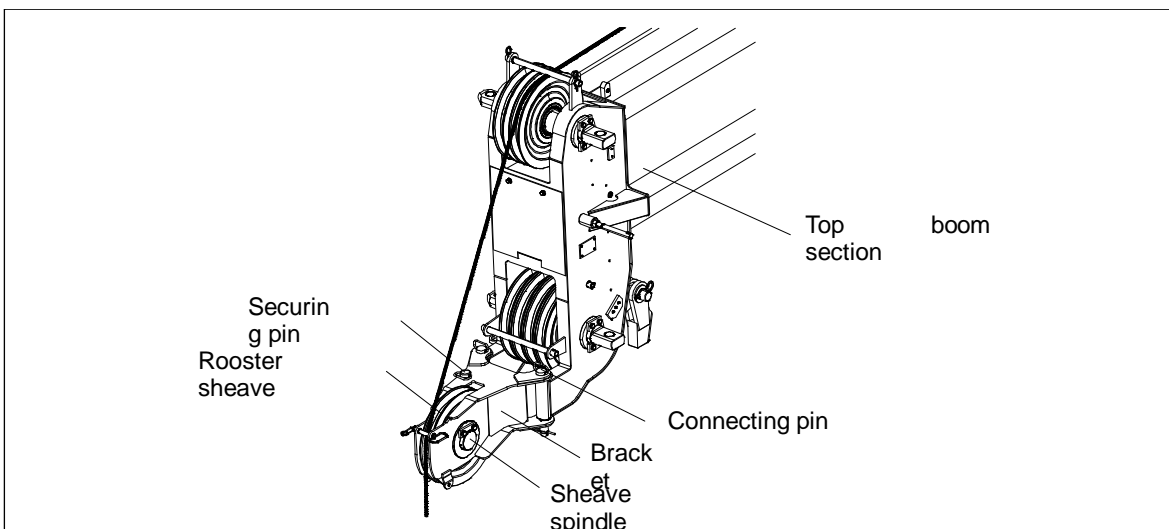

Figure 7-49 Rooster Sheave
- B. When it is not necessary to use the rooster sheave, make sure that it is attached to the side of the boom. Refer to Figure 7-49.